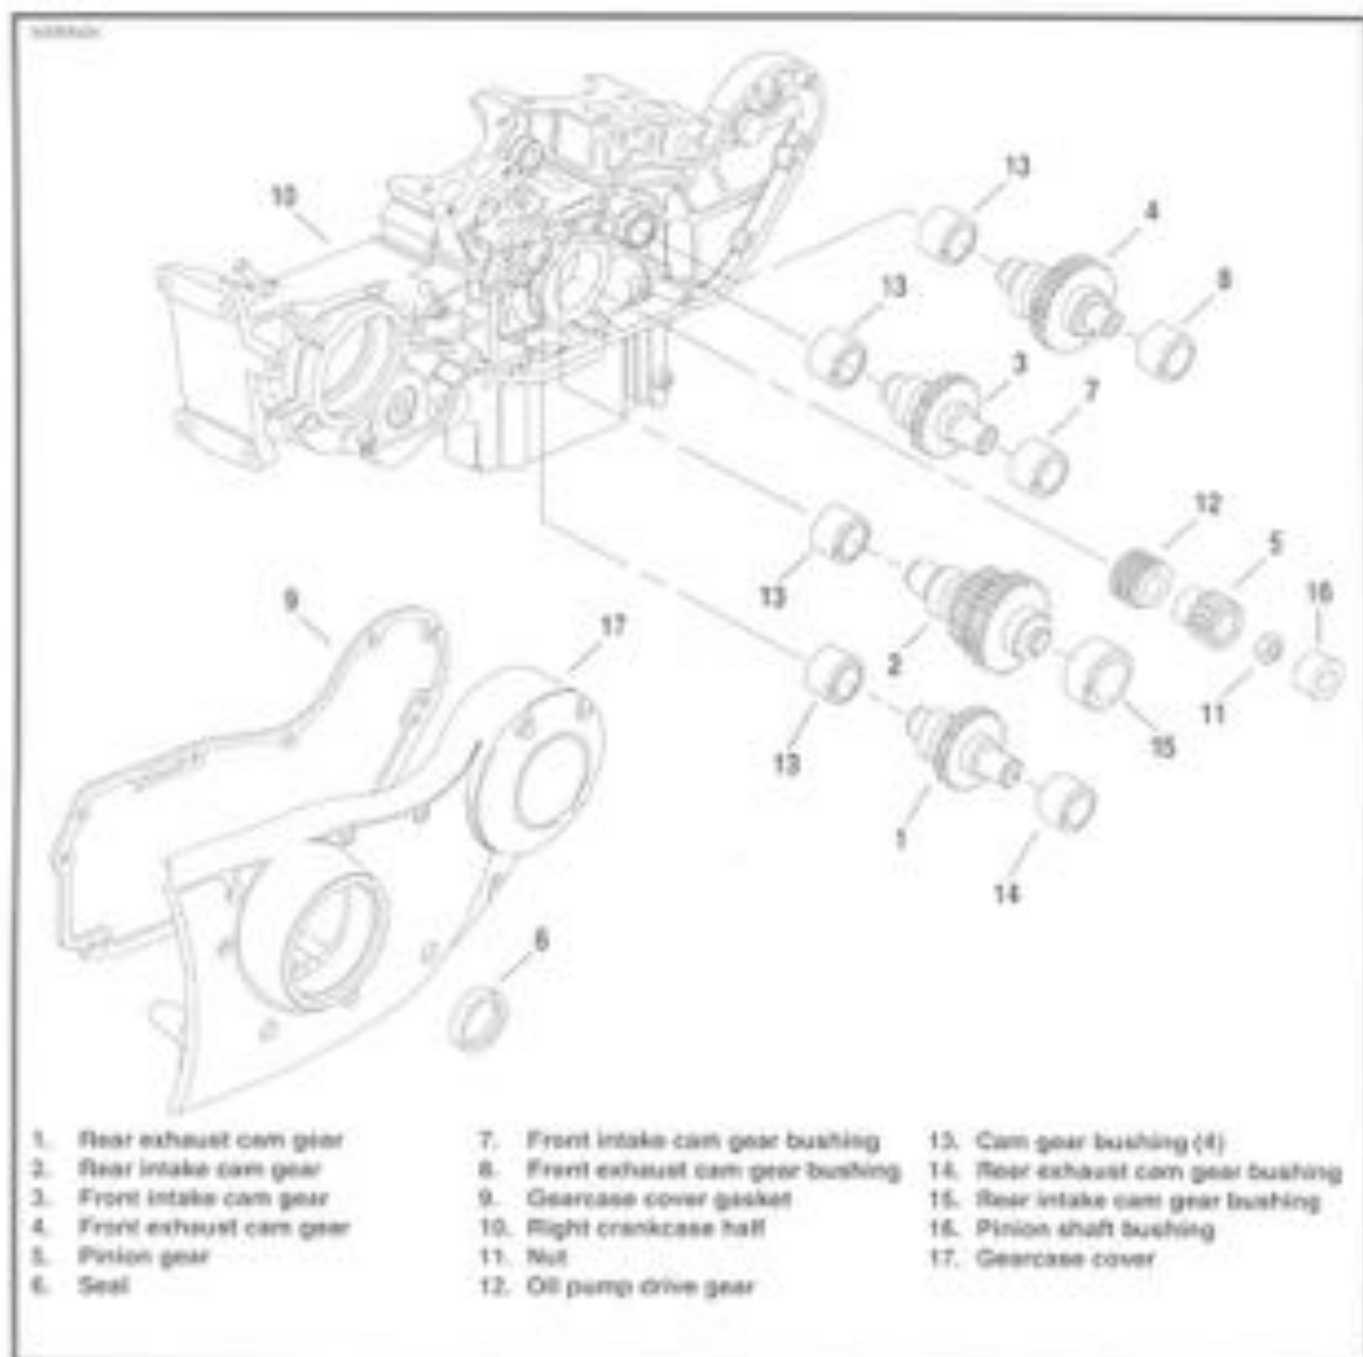

Figure 3-59. Gearcase and Valve Train Components
(Figure 3-59)
1. See Figure 3-59. Using an arbor press, install piston shaft bushing (18) in its gearcase cover (17) so that bushing is flush with cover boss. There is no need to orient this particular bushing in any specific position of rotation within the gearcase cover bore.